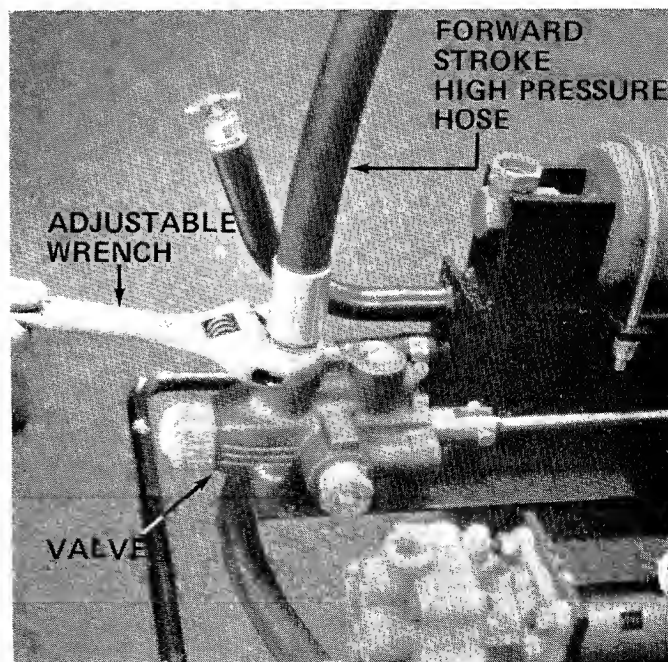

FIGURE 10
12. Assemble the forward stroke high pressure hose to the valve. An adjustable wrench is required. See figure 10.